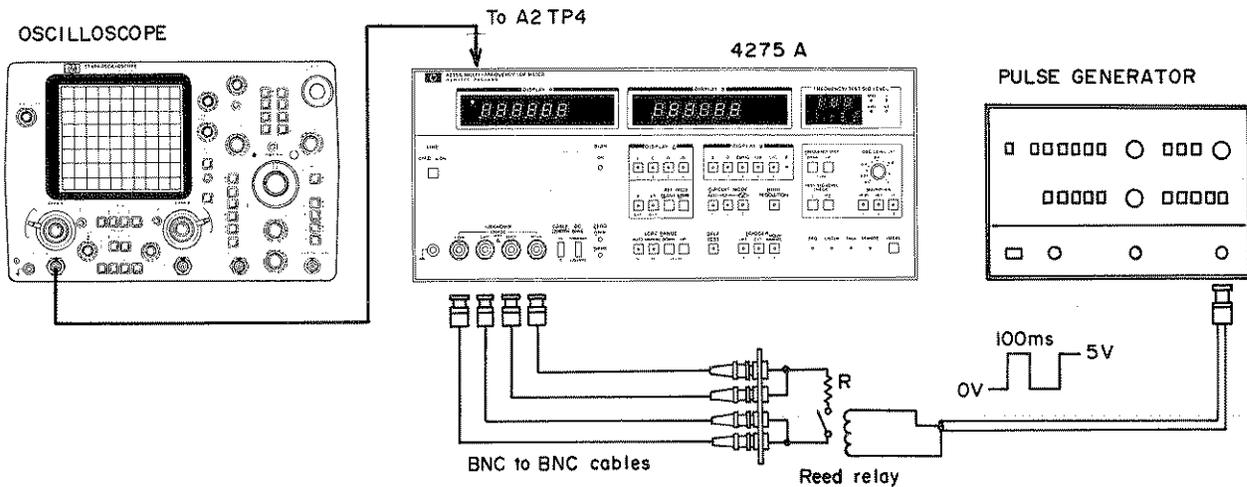

Figure 5-6. Balance Control Phase Tracking Adjustment Setup.
1. Connect test equipment as illustrated in Figure 5-6.